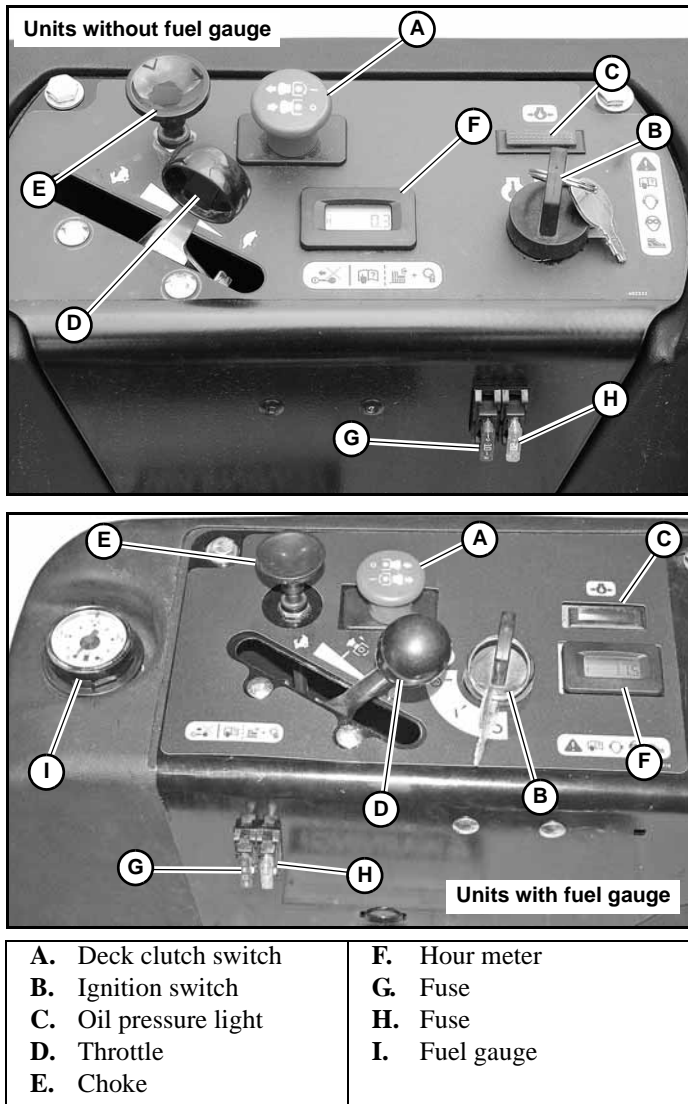

Figure 3-1
**A. Deck clutch switch (Figure 3-1)** — this switch engages the deck. Pull the switch up to engage and push switch down to disengage the clutch.
**B. Ignition switch (Figure 3-1)** — a three position switch: “OFF”, “RUN”, and “START”. With key inserted, rotate it clockwise to “START” position; release key when
**C. Oil pressure light (Figure 3-1)** — this light comes on when the ignition switch is placed in the RUN position and stays lit until the engine is running and a safe oil pressure is developed. If light comes on during operation, shut engine off immediately and locate and correct the problem.
**D. Throttle control (Figure 3-1)** — a cable is linked to the engine throttle for controlling engine speed. Move lever forward to increase engine rpm, move lever rearward to decrease engine rpm.
**E. Choke control (Figure 3-1)** — a cable is linked to manually operate the engine choke. When the lever is in the down position, the choke is in the off (run) position. When the knob is pulled up, the choke is in the on (start) position. **Do not** operate the machine in the on (start) position.
**F. Electronic hour meter (Figure 3-1)** — registers 1/10 hour increments up to 9,999.9 total hours. Connected to the ignition switch, the meter records the accumulative time while the ignition key is switched to the RUN position.
**G. 10 amp fuse (Figure 3-1)** — Ignition system - 10 amp, blade-type.
**H. 15 amp fuse (Figure 3-1)** — Safety system - 15 amp, blade-type.
**I. Fuel tank gauge (Figure 3-1)** — This gauge shows the fuel level for each fuel tank.